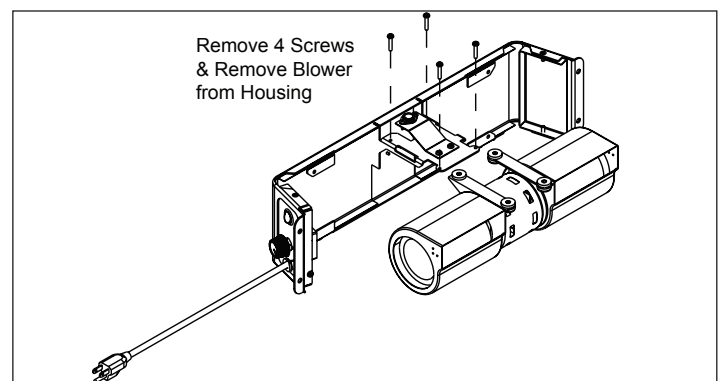

Figure 22.2
3. Using a Phillips head screw driver, remove 4 screws. **Figure 22.2.**